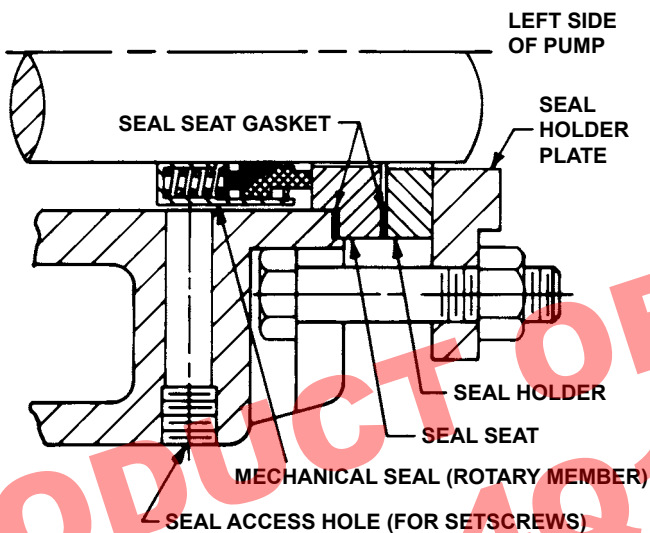

FIGURE 8 - STANDARD MECHANICAL SEAL
4. **STANDARD MECHANICAL SEAL** (Type 9, PTFE is standard). If the mechanical seal fails it can be replaced with a new one. There are two basic parts to the mechanical seal, the rotary member and the stationary seat. See Figure 8, page 11. To remove the mechanical seal loosen the setscrews around the outside of the mechanical seal which lock it to the shaft. Access to the seal setscrews is through the seal access hole located on the left hand side of the pump mounting bracket (viewed from the shaft end). See Figure 8, page 11. Rotate the rotor shaft so all setscrews come into view (three on Q, QS & M, four on LS). Remove the nuts holding the seal holder plate. Remove the seal holder and plate.
5. **STANDARD MECHANICAL SEAL** (PTFE - **see Figure 8**). The seal is simple to install and good performance will result if care is taken during installation.
Move the rotary member so the setscrews are directly below the seal access holes on the left side of the bracket (viewed from the shaft end) - **see Figure 8**. Tighten all setscrews securely to the shaft. Flush the sealing faces of both the rotary member and seal seat with oil and install the seal seat and a seat gasket over the end of the shaft against the machined bracket face. Assemble the other seal seat gasket, seal holder, seal holder plate, capscrews and nuts and tighten securely. Remove the tapered installation sleeve.